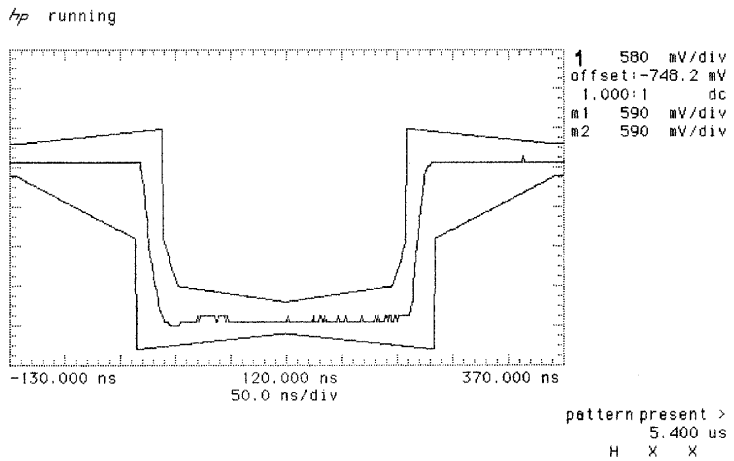

Figure 3-31 2 Mb/s Isolated Negative Pulse
18. Adjust the oscilloscope timebase and vertical sensitivity controls to verify that the pulse meets the mask as shown in Figure 3-31. Use the displayed settings as a guide.